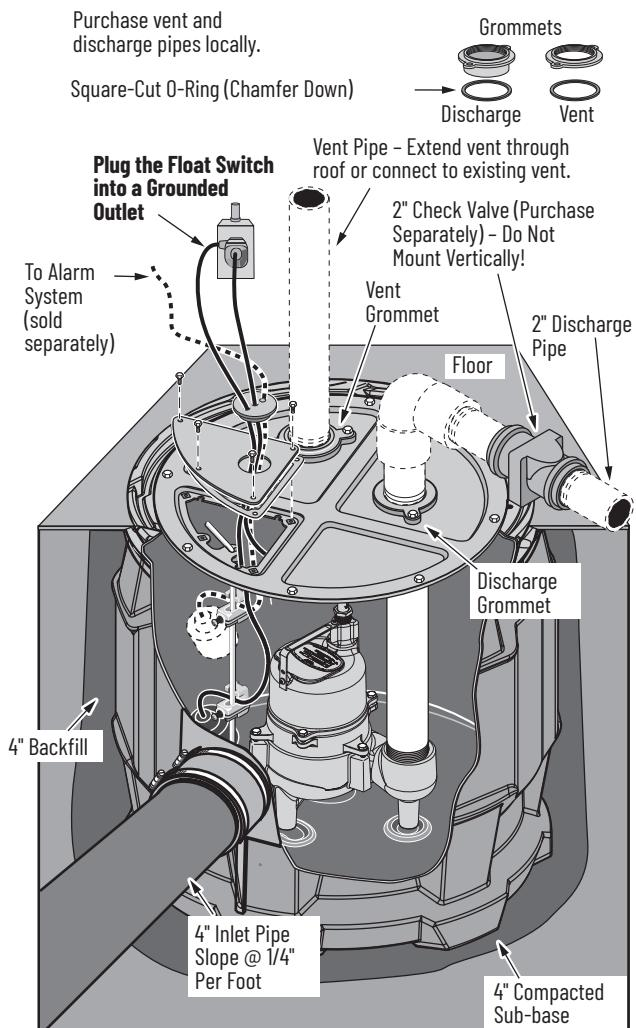

Figure 1 – Typical Installation
1. Dig the hole for the sewage basin and the sub-base. The hole must be deep enough so that the finished floor is flush with the top of the basin (Figure 1). The sub-base requires 4" of sand or gravel/ crushed rock. Crushed rock pieces should not be larger than 1/2" while the recommended diameter of the pea gravel pieces should not exceed 3/4".
8. Install the 2" check valve in the horizontal portion of the discharge pipe (Figure 1). Make certain the flow-indication arrow points away from the pump. This check valve will keep the water from running back into the basin when the pump is not running.